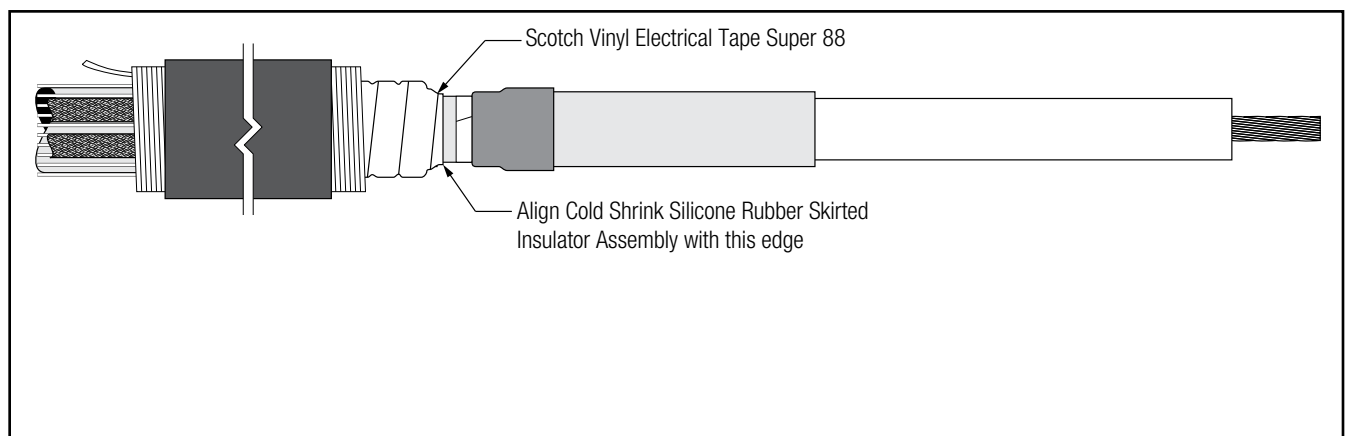

Figure 25
- 6.6 Slide the cold shrink silicone rubber skirted insulator assembly onto the cable. Align the assembly tube (not the core) with the end of the sealing mastic/constant force spring cover tape located 3.0" (76 mm) from the end of the cable semi-con. (Figure 25)